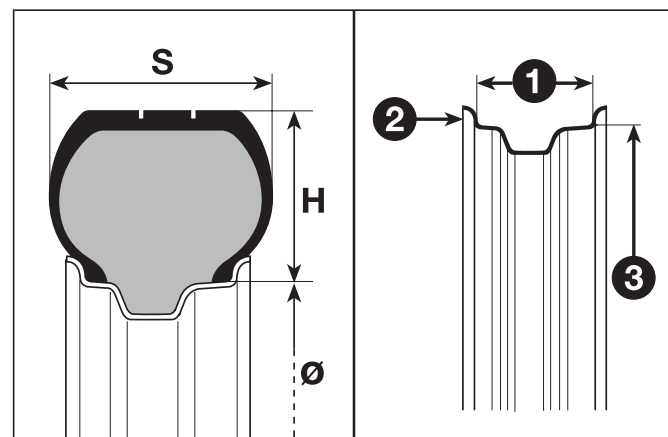

fig. 161
Example fig. 161: 185/55 R 15 82T
CORRECT READING OF THE RIM CODE**Example fig. 161: 6 J x 15 H2****6** rim diameter in inches (1).**J** rim drop centre outline (side projection where the tyre bead rests) (2).**15** rim nominal diameter in inches (corresponds to diameter of the tyre to be mounted) (3 = Ø).**H2** shape and number of humps (circumference measurement which keeps the bead of tubeless tyres in position on the rim).